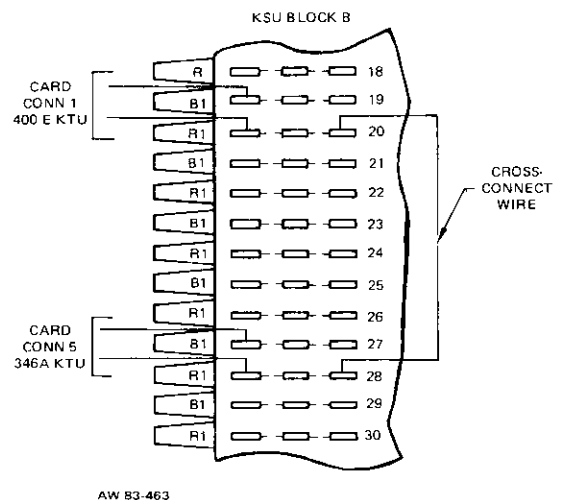

Figure 22: Connecting Details, R1 Lead
- (e) On KSU connecting block B, connect the R1 terminal for the 346A KTU to the R1 terminal for the associated line card KTU as shown in Figure 22.